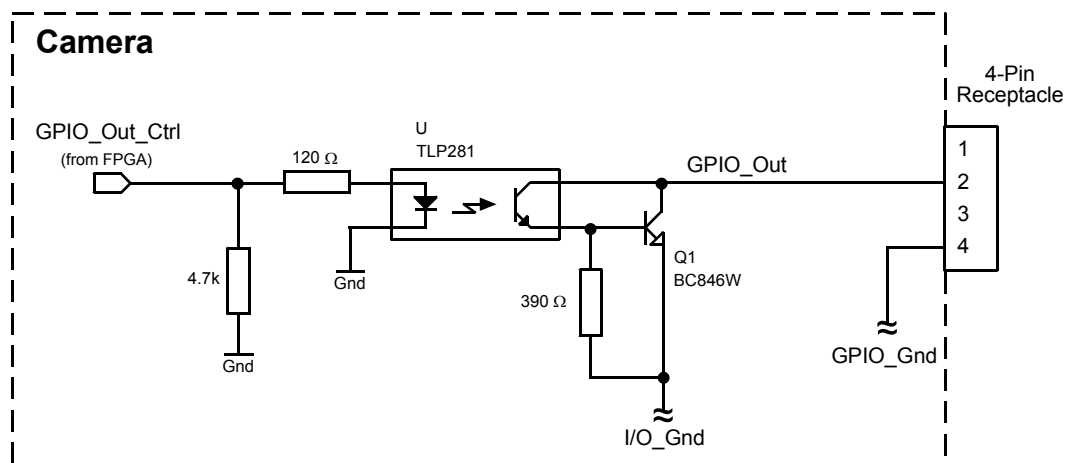

Fig. 17: GPIO Line Schematic (GPIO Line Set as an Output)
- A low output signal from the camera results in a non-conducting Q1 transistor in the output circuit (see Figure 17).